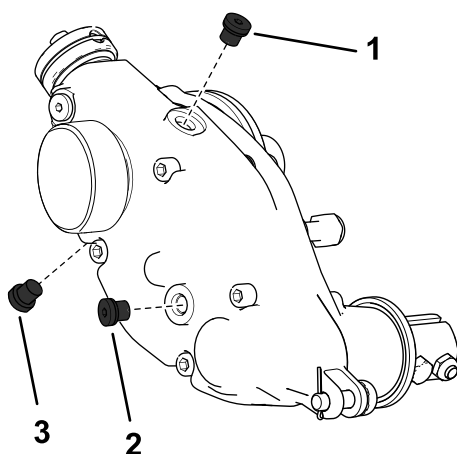

Figure 28
2. Remove the drain plug on the bottom of the housing (Figure 28).
3. Remove the fill plug on the side of the housing and loosen the air-vent plug on the top so air can pass through (Figure 28).